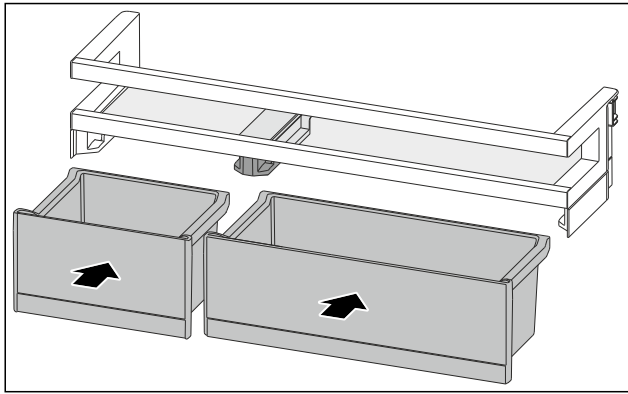

Fig. 191
- Insert the VarioBoxes in reverse order. (see Fig. 191)